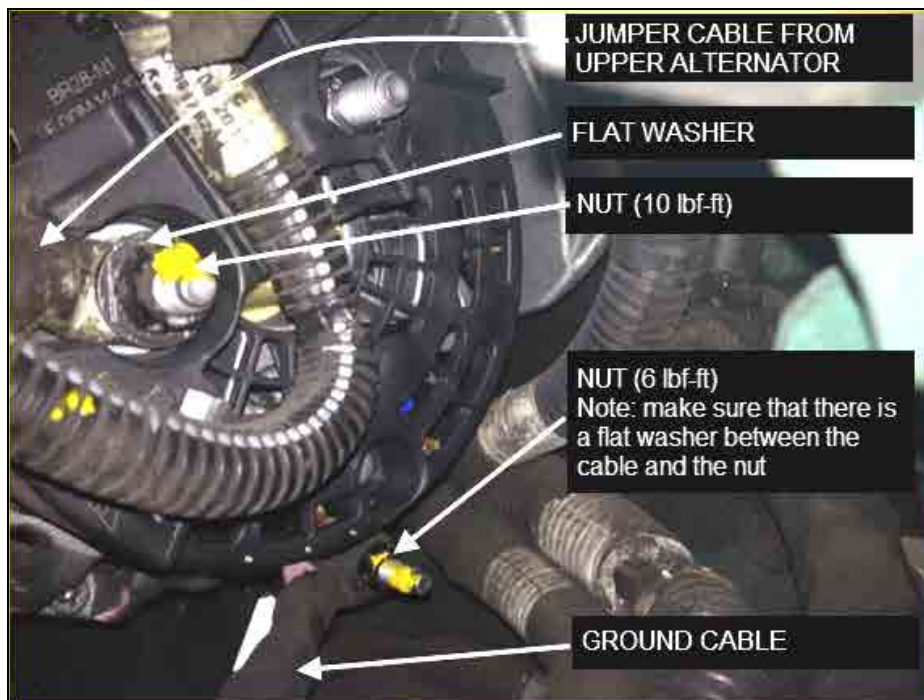

FIGURE 10
- Fit jumper cable (positive cable) onto **B1+** stud terminal on lower alternator (figure 10).
- Place one new flat washer #5001341 against the cable ring terminal and screw new nut #5001787 (nut torque: 10 lbf-ft) (figure 10).
- Fit the ground cable onto the alternator ground stud, place one new flat washer #502573 against the ground cable ring terminal and screw a new nut #5001182 (nut torque: 6 lbf-ft) (figure 10).